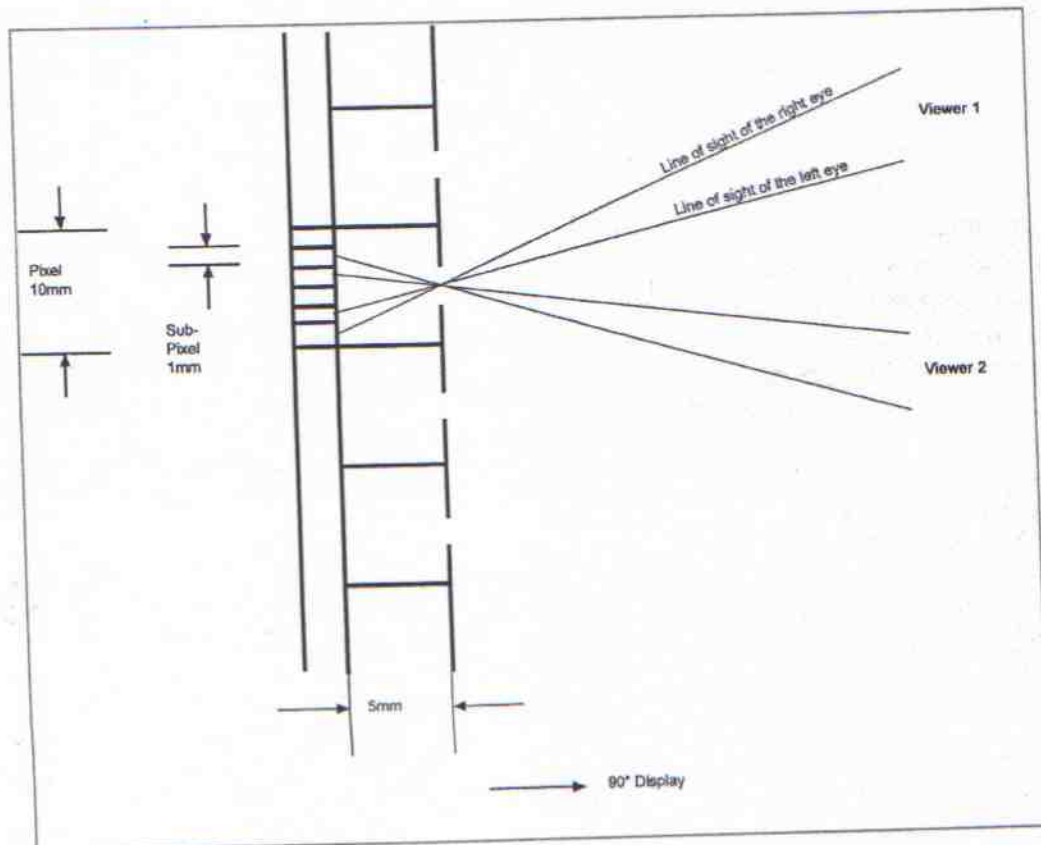

Fig. 1 Autostereoscopic display - schematic set-up
- in autostereoscopic systems images are assigned to different angles of sight (the principle of this technique is illustrated in Fig. 1). Autostereoscopic systems do not need special
glasses from the side of the viewer. They also can display, in principle, a multitude of perspectives of the same object. So, they allow several viewers to get their respective perspective of the object displayed (multiple-viewer functionality). The drawback of autostereoscopic systems is their poor resolution. In order to display a number n of perspectives (n is typically in the order of ten) the resolution is diminished by a factor of n (s. Fig. 1).